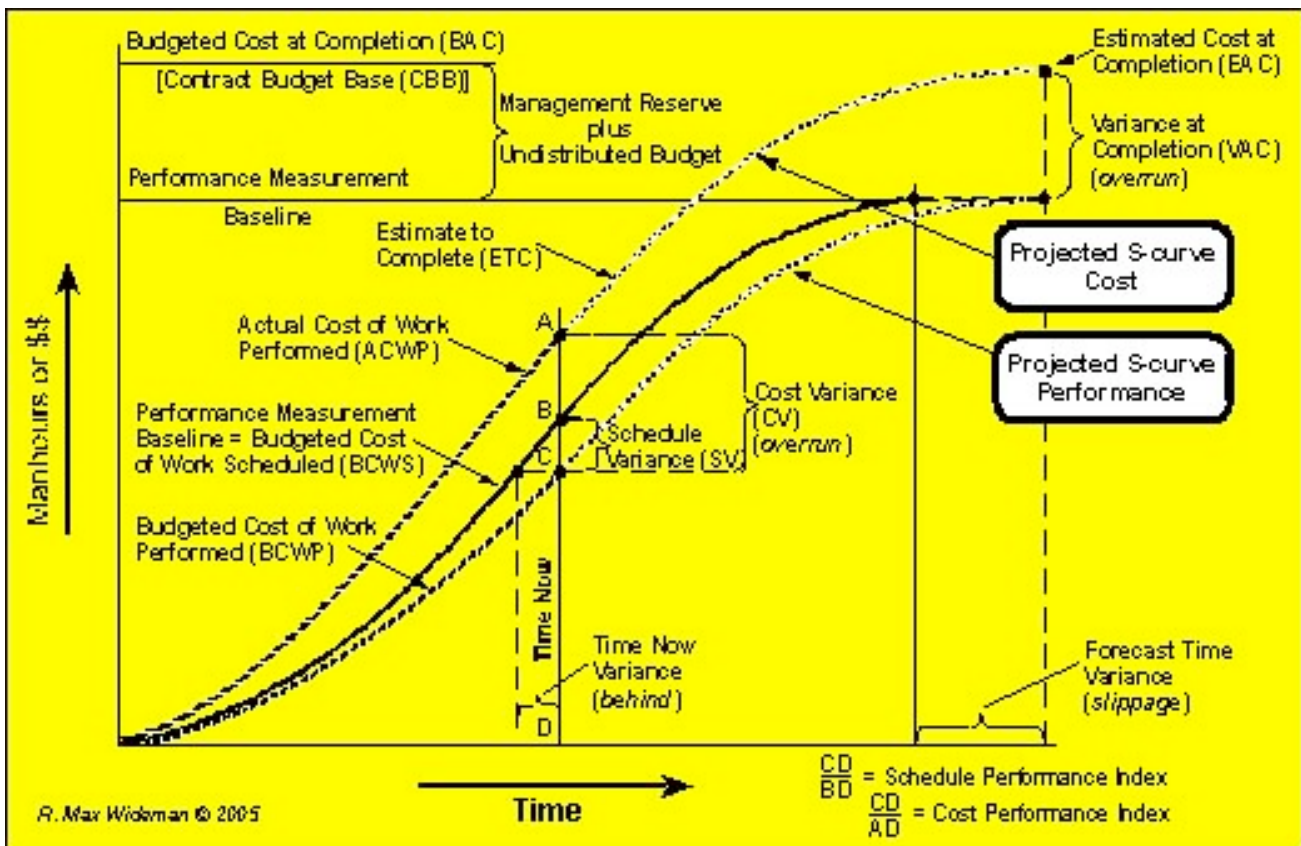

Figure 2: Earned Value concepts
- If we have the necessary details another control tool that we can adopt for monitoring ongoing work is the "Earned Value" (EV) technique. This is a considerable art and science that you must learn about from texts dedicated to the subject.
- Either way, the result is a curve in the shape of an "S", known (surprise, surprise) as an "S-curve". This curve (obviously) has a distinctive shape but one way only as shown at <http://www.maxwideman.com/issacons3/iac1303/sld008.htm> (see Figure 2). For an explanation as to why the S-curve is inevitably the way it is, and how to approximate its shape, go to <http://www.maxwideman.com/papers/resource/loading.htm>.